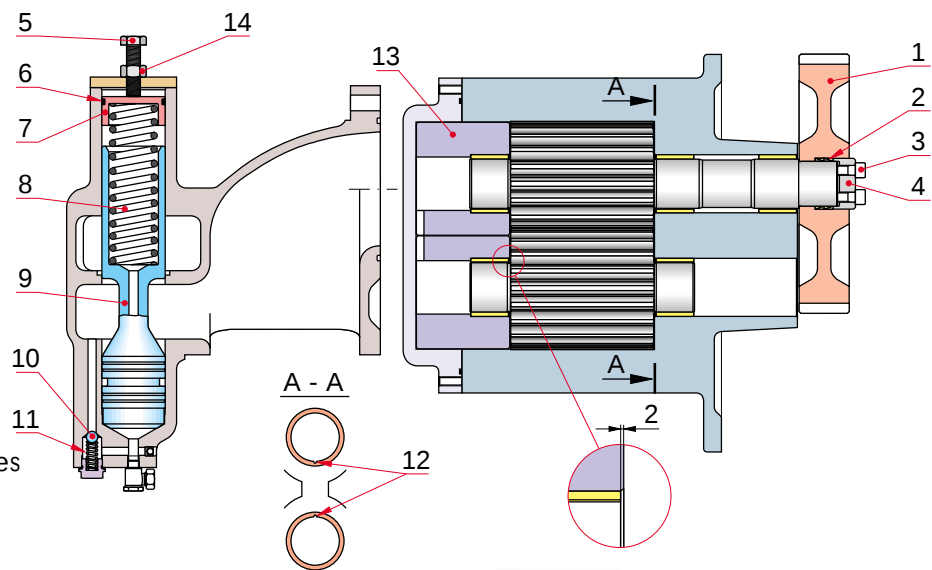

Fig 18-2
The pressure in the distributing pipe is regulated by a pressure control valve (4) on the pump. The pressure can be adjusted by means of a set screw (Fig 18-2, pos. 5) on the control valve. It is very important to keep the correct pressure in order to provide efficient lubrication of bearings and cooling of pistons. Normally, the pressure stays constant after having been adjusted to the correct value.
3 Mount new bearings (freezing is recommended) so that the bearings are two 2 mm below the sleeves and housing level, Fig 18-2. Be careful so that bearing lubrication grooves (12) slide into the right position according to section A-A in Fig 18-2.
The pressure regulating valve, see Fig 18-2, is integrated in the lubricating oil pump module and regulates the oil pressure before the engine by returning the surplus oil direct from the pressure side of the pump back to the sump.